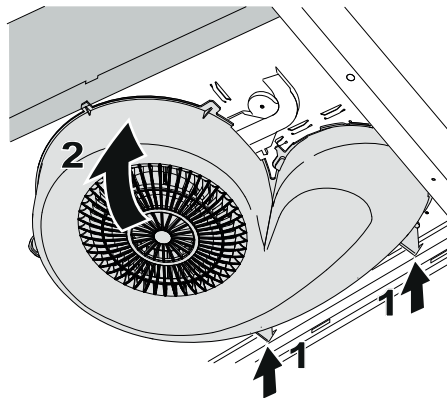

Fig. 7
Refit the blower by inserting the supports in the rear of the hood (1). Bend up the blower (2). Fig. 7